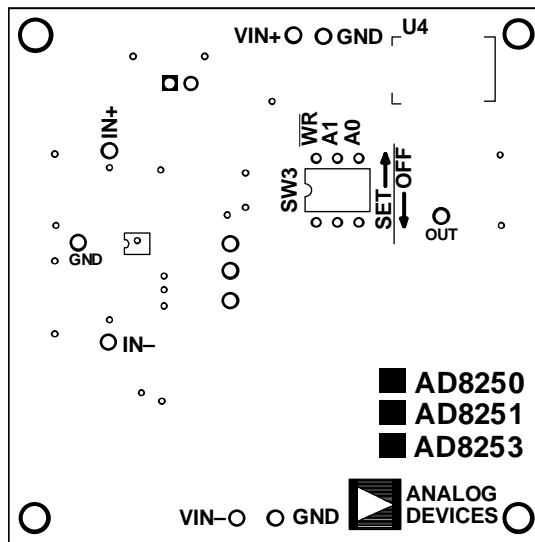

Figure 7. AD8253-EVALZ Evaluation Board Silkscreen
- A small slotted screw driver, or similar device, to adjust the three DIP switches within the SW3 DIP switch (see Figure 7).
1. Before any connections are made, verify the initial DIP switch configuration must. Set all switches to the off position, as indicated by the silkscreen (see Figure 7).